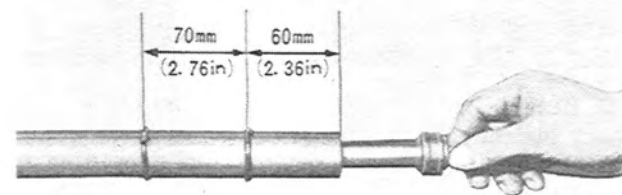

Fig. 13-19 Installing of oil stop rings
- 9. Install the two oil stop rings onto the bottom side of the pressure tube, as shown in Fig. 13-19.